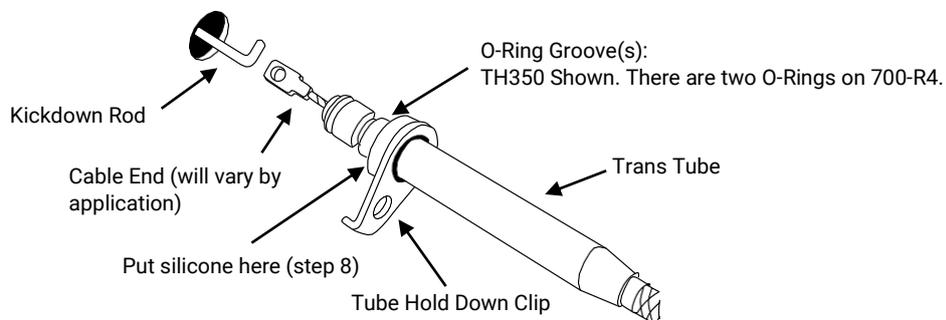

Figure 5
- On the trans tube at the transmission end of the Kickdown Cable there will be either one or two O-ring grooves. TH350 use one O-ring, and the 700-R4 use two O-rings. Lightly lubricate the kickdown cable O-ring(s) with clean transmission fluid and slide the O-ring(s) into the groove(s) on the trans tube. To help prevent leakage add a small amount of silicone sealant (RTV) around the trans tube above the top O-ring. Fig. 5